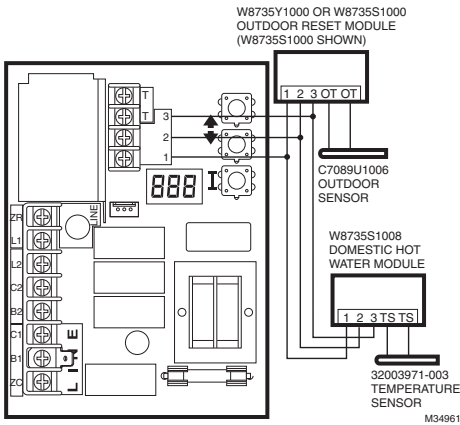

Fig. 6. Wiring the Outdoor Reset Module and the Domestic Hot Water Module.
4. Connect sensor to circuit board by pressing connector on sensor unit into mating connector on circuit board (refer to Fig. 6).